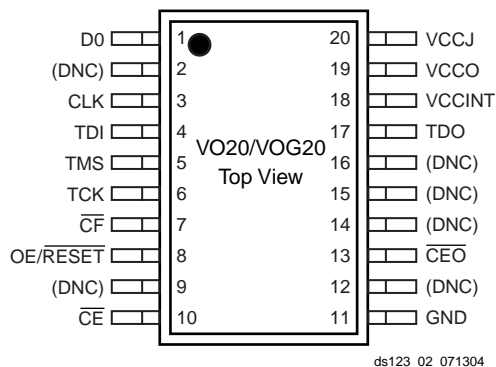

Figure 17: VO20/VOG20 Pinout Diagram (Top View) with Pin Names
- Figure 17, VO20/VOG20 Pinout Diagram \(Top View\) with Pin Names, page 34